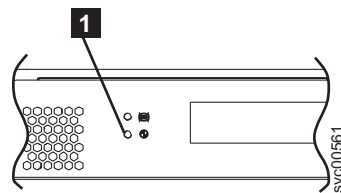

Figure 86. SAN Volume Controller service controller error light
**Is the service controller error light **1** that you see in Figure 86 illuminated and showing a solid amber?**